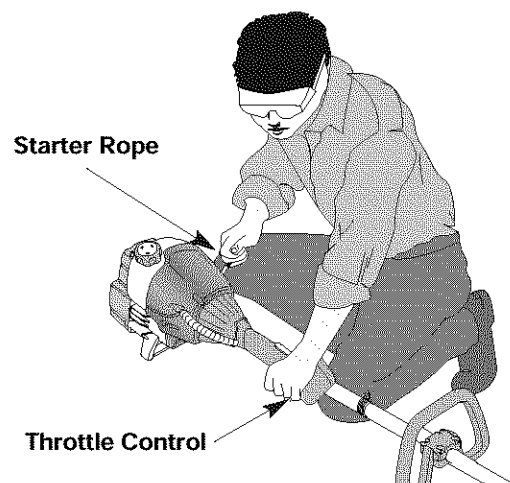

Fig. 18
5. With the unit in the starting position (Fig. 18). **DO NOT SQUEEZE THE THROTTLE CONTROL.** Pull the starter rope briskly 5 times in the with the EZ-Start™ lever pushed to the left. If the engine starts to run before the fifth pull, proceed to step 7.
**NOTE:** If engine stalls while squeezing trigger, continue to squeeze trigger and pull starter rope until the trimmer starts. (Fig. 18)
**NOTE:** Choking is unnecessary when starting a warm engine. Put the On/Off Stop Control in the **ON** position (Fig. 3), squeeze the throttle and pull the starter rope briskly. (Fig. 18).
1. Release your hand from the throttle control (Fig. 18). Allow the engine to cool down by idling.